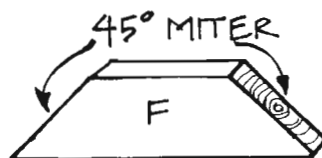

Figure 5
8. Setting each corner support (F) on its face, miter both ends at a 45-degree angle as shown in *Figure 5*.